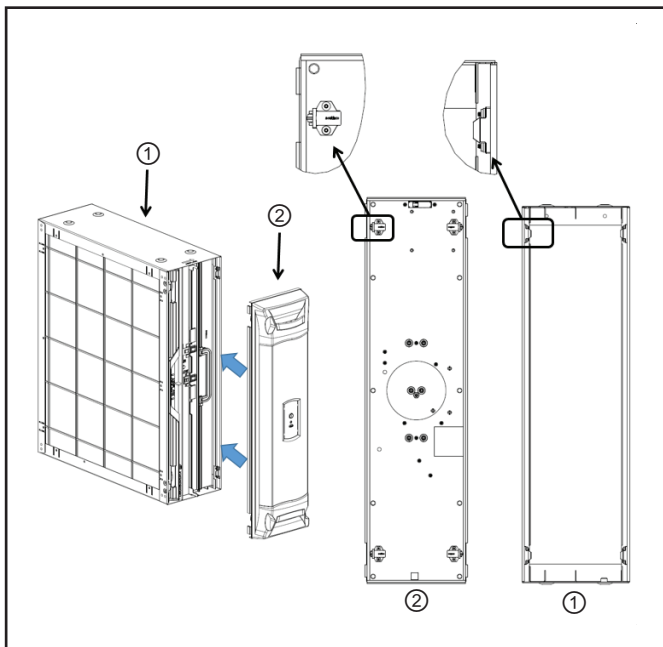

Figure 13 Reinstalling Power Door
**Step 2:** Replace the power door onto the air Cleaner. See Figure 13.